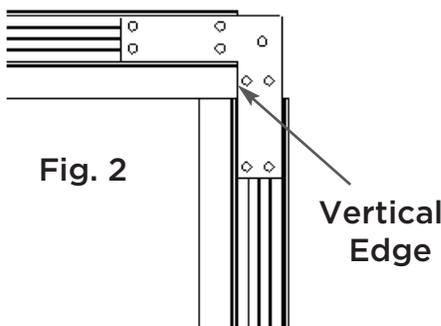

Fig. 2
6. Push one jamb down to sill and use a square for a 90° corner. Vertical edge of head must line up with vertical edge of clip. (Fig. 2)
5. Pull head to jamb. Check corner for 90°. Vertical edge of head must line up with vertical edge of clip. (Fig. 2) Clip must set flat in groove. (Fig. 3)